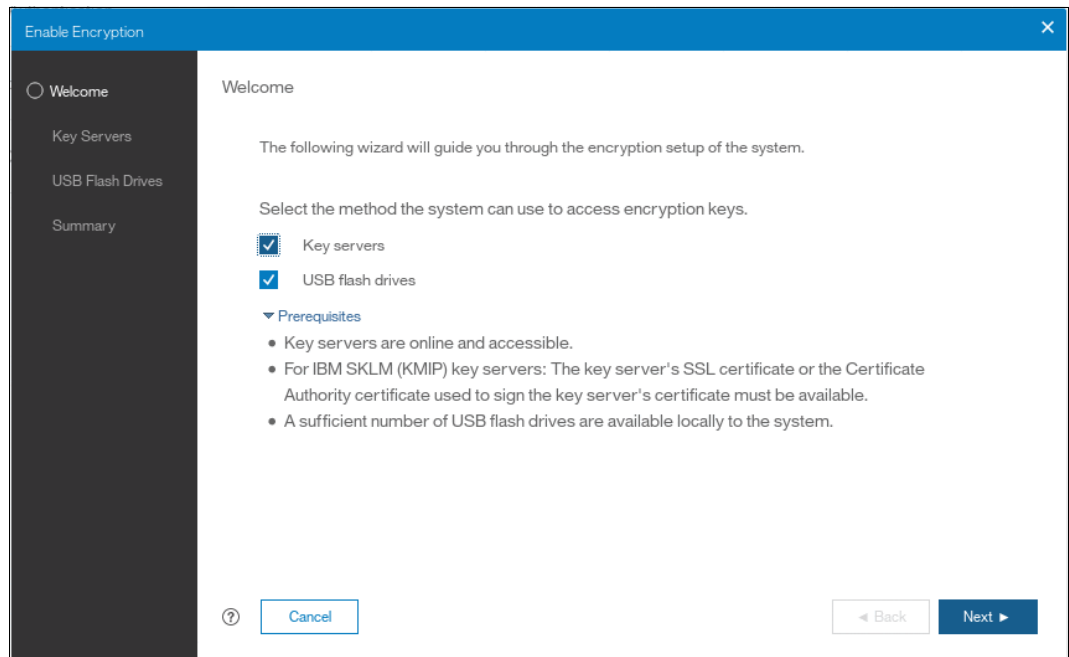

Figure 13-40 Selecting Key servers in the Enable Encryption wizard
2. In the Enable Encryption wizard Welcome tab, select **Key servers** and click **Next**, as shown in Figure 13-40 on page 733.
2. In the Enable Encryption wizard Welcome tab, select **Key servers** and click **Next**, as shown in Figure 13-40.